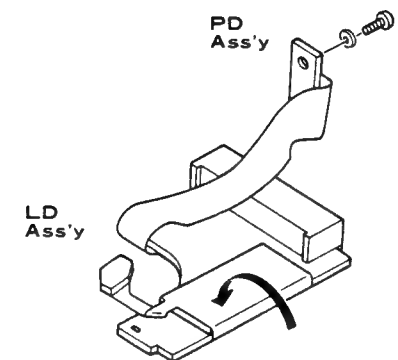

Fig. 1.
1. Bend as indicated by the arrow in Fig. 1, and attach using double-sided tape and adhesive.
2. Attach to the pick-up with the flexible section curved as shown in Fig. 1.